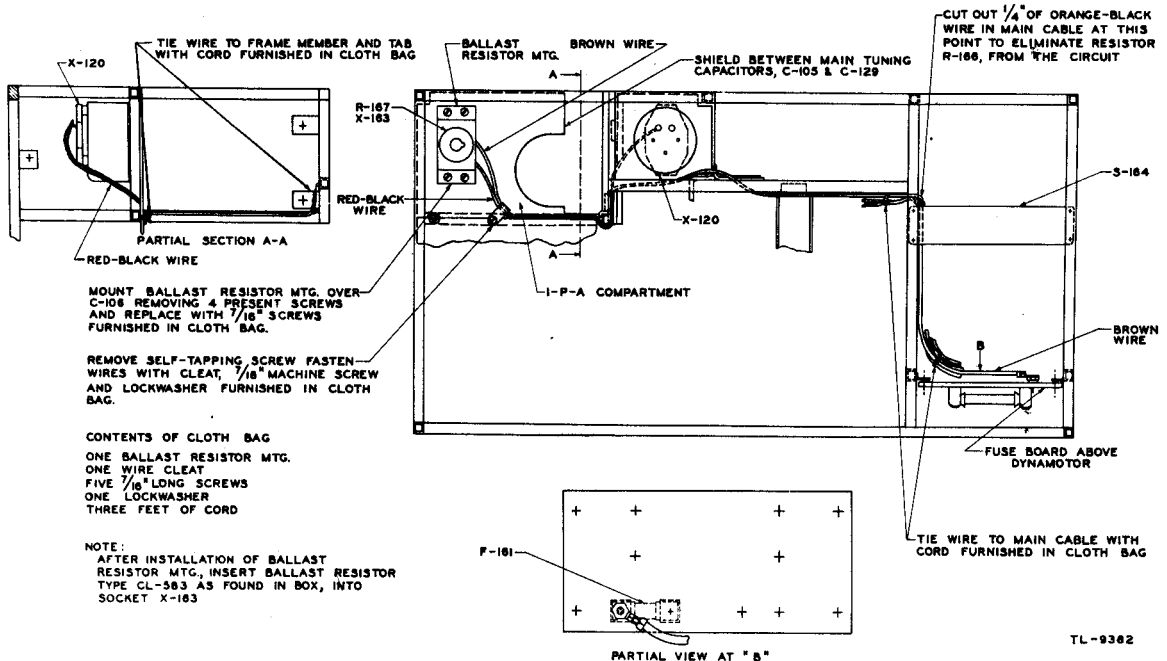

FIG. 1-DETAILS OF BALLAST RESISTOR MODIFICATION, TO IMPROVE TUBE LIFE ON 24-VOLT OPERATION.
This ballast resistor and associated octal socket X-163 is installed in the int. power amplifier compartment adjacent to the i-p-a tuning capacitor, as shown in Fig. 1. Fixed resistor R166 is effectively eliminated from the circuit by merely clipping one wire, as explained in the complete modification procedure given below.
illator trimmer capacitor C106 in place. Mount the socket X-163 with four of the 7/16" long screws provided. Clamp the two laced leads with the cleat and 7/16" screw furnished, as shown in Figs. 1 & 2.
7. Route the brown lead from the ballast tube socket X-163 up and over the shield between the i-p-a and p-a tubes, then under the frame tubing, along the cable into the modulator compartment and thence to fuse F161. This routing is illustrated in Figs. 1 & 2.
8. The orange-black wire which connects to section A of switch S-164 (12-24 volt change-over switch) must be clipped free from the terminal and an approx. 1/4" section removed, as shown in Fig. 1. This effectively removes R166 from the circuit.